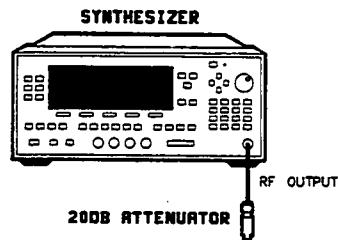

Figure 2-7. Maximum Leveled Power Test Setup
1. Turn on the equipment shown in figure 2-7. Preset the synthesizer and let it warm up for at least one hour.
- Connect the equipment as shown in figure 2-7.